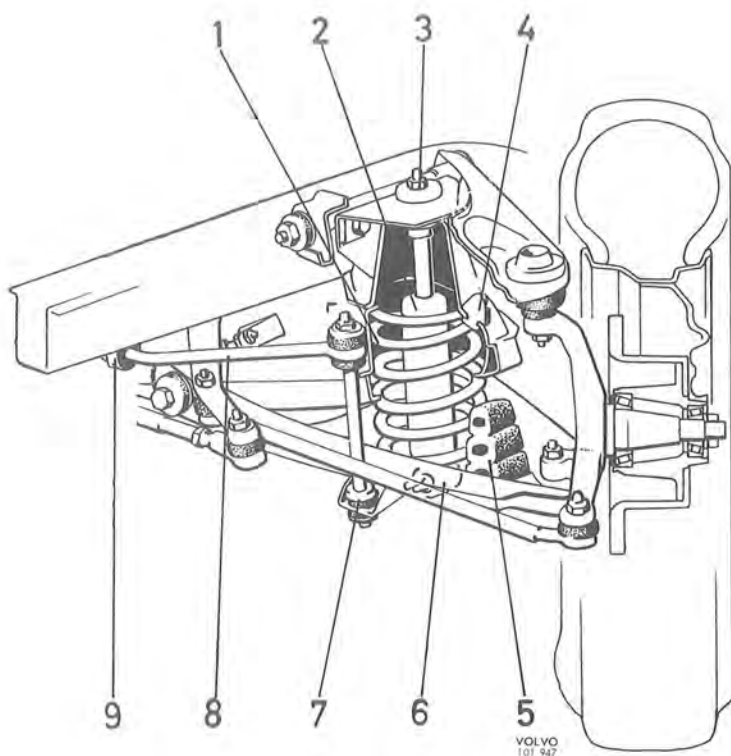

Fig. 7-2. Front spring and shock absorber
The Volvo 164 is provided with coil springs at both front and rear. The front wheel suspension is independent. The upper ends of the front springs (1, Fig. 7-2) are seated in housings formed in the front axle member, and are seated in the bottom of the lower wishbones. The lower wishbones are also provided with rubber buffers (5), which absorb any impacts arising from loading on the spring. The front axle member is fitted with rubber buffers (4) which limit the downward movements of the wishbones.
4. Disconnect the steering rod from the steering arm. Loosen the clamp for the brake hoses. Remove the attachment (7, Fig. 7-2) for the stabilizer.
The stabilizer (8, Fig. 7-2) which is attached to both the lower wishbones (7) and to the frame (9), increases the stability of the vehicle.